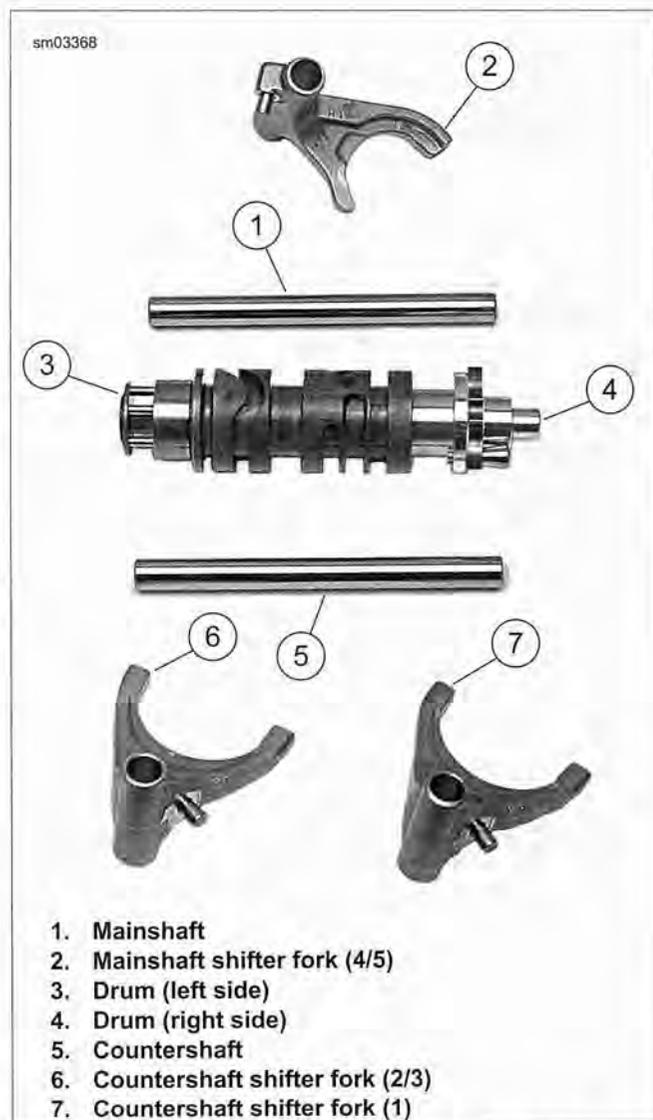

Figure 5-92. Shifter Forks, Drum and Shafts
- See Figure 5-92. Shifter design allows for one common part number for both countershaft shifter forks. As the transmission runs, each shifter fork develops a certain wear pattern with its mating parts. For this reason, it is important that each shifter fork be reinstalled in its original location.